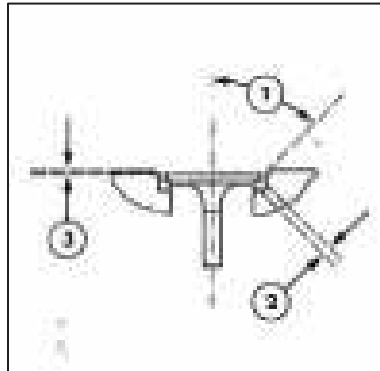

Fig. C2.42
3. Check the valve seat angle as shown in the fig. C2.42